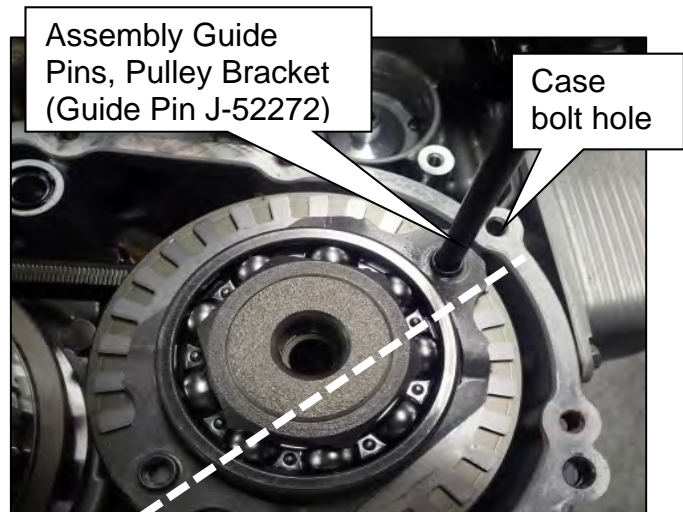

Figure 210
- Place the guide pin next to the case bolt hole, as shown in Figure 210.